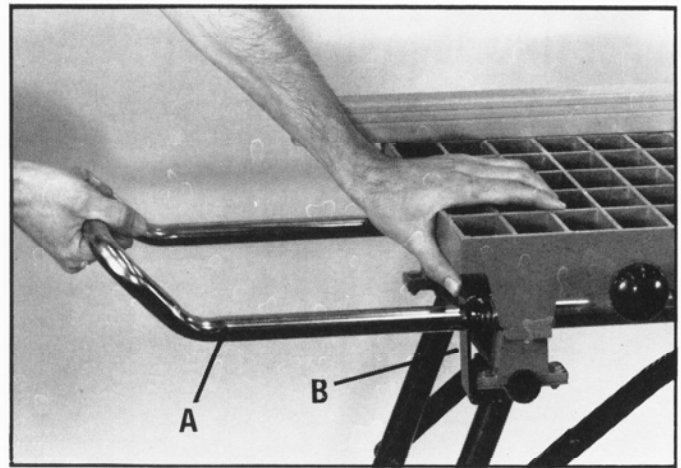

Fig. 24
A table support (A) Fig. 24, is supplied with your saw to provide support for extra long work pieces. To move table support (A) in or out, press in on table extension lock bracket (B) as shown and move table extension to desired position.